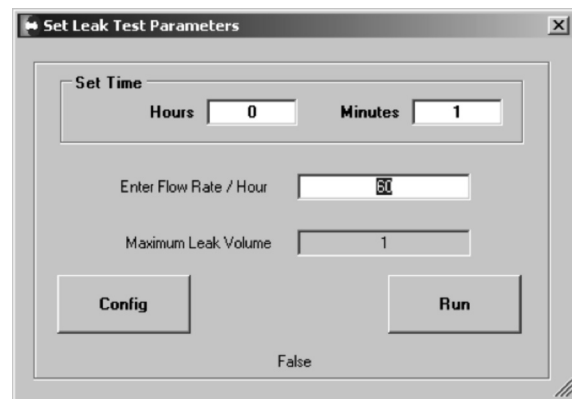
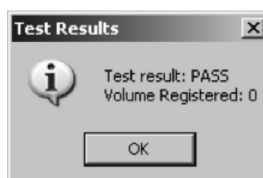

Figure 7.12 - Dresser MeterWare configuration screen for the downstream leak test
Figure 7.13 - Leak Test Pass/Fail indications in MeterWare
2. Using Dresser MeterWare allows the operator to both run the leak test as well as adjusting the test parameters as shown in Figure 7.12. After testing, a PASS or FAIL notification is provided on both the computer screen as shown in Figure 7.13 and on the meter as described in the magnetic interface section above.